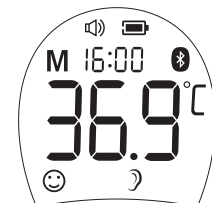

Figure 8
2. The thermometer will automatically memorize the last 30 temperature readings. Each memory also records the measurement date/time/mode icon. Each time the *Memory Button* is pressed, the screen displays past readings that correspond with a number 1-30. The number 1 reflects the most recent reading, while the number 30 reveals the oldest reading stored in memory. (See Figure 8)